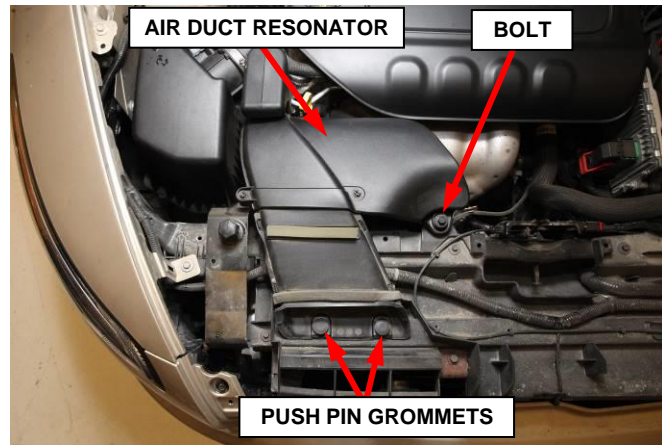

Figure 6 – Air Duct Resonator
12. Remove one bolt and release air duct resonator assembly from the two push pin grommets, then remove the air duct resonator assembly from the vehicle (Figure 6).
35. Install the air duct resonator assembly to the two push pin grommets on the vehicle (Figure 6).